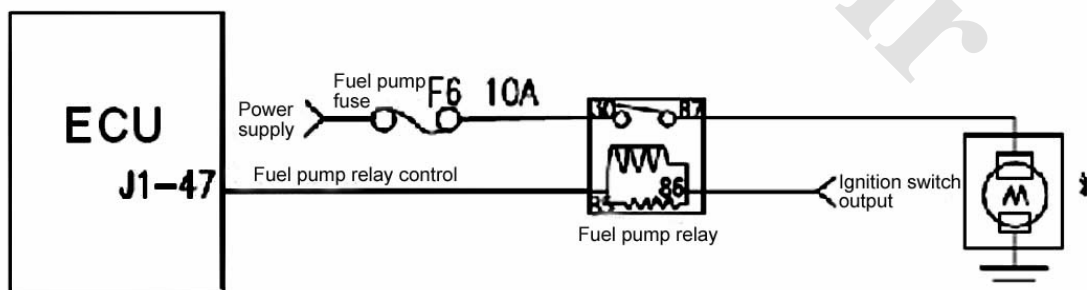

Fig. 1-12
**(1) Function:** To deliver fuel in the oil tank to the engine with a certain oil pressure and volume, not greatly affected by temperature and voltage.
**(2) Structure and principle:** The fuel pump consists of DC motor, vane pump, and end cap (integrating check valve, pressure release valve and anti-electromagnetic interference element), which shares the same axle and housing with the motor. The pump and motor in the housing is surrounded by gasoline, which can be used for cooling and lubricating material. The battery supplies power for the electric fuel pump through a relay. The relay is connected with the fuel pump only when the engine starts and operates. When the engine stops due to some troubles, the fuel pump will stop automatically. The maximum pressure at the outlet of the fuel pump will be decided by the pressure release valve. As no-oil-return system is adopted, the fuel pressure regulator is installed on the fuel pump assembly. The fuel pressure regulator can adjust the pressure of the fuel pump to 380 kPa to meet the demand of the system.
**(3) Connection of the wiring diagram (Fig. 1-12)**